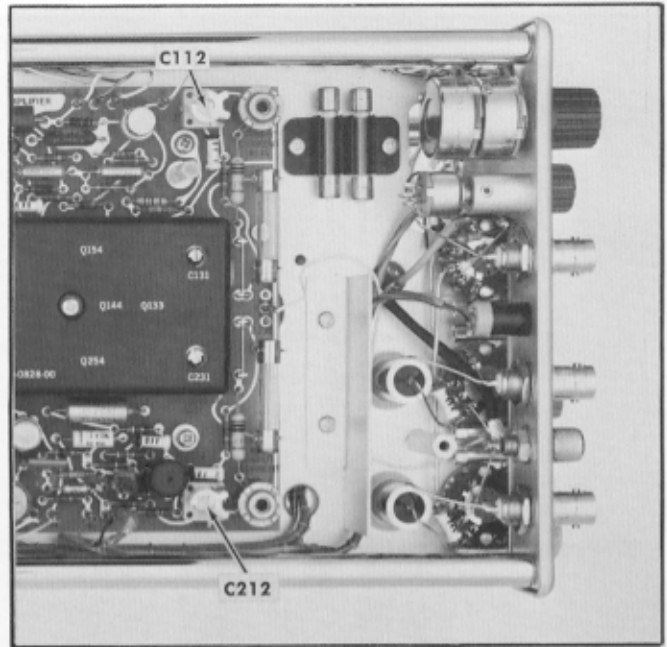

Fig. 5-16. Location of C212 and C112.
- ADJUST—C212 (see Fig. 5-16) for minimum aberration.
- d. ADJUST—C112 (see Fig. 5-16) for minimum aberration.